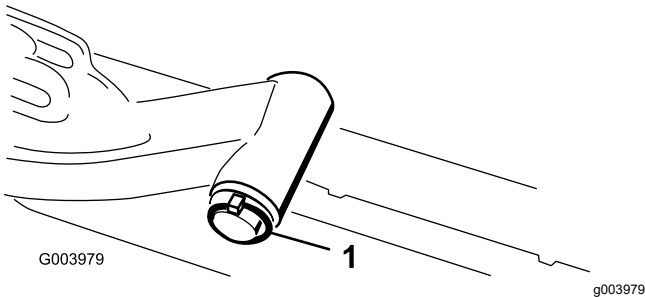

Figure 11
- A. Remove the lynch pin and washer securing the lift-arm pivot shaft to the lift arm and slide the lift-arm pivot shaft out of the lift arm (Figure 11).
- C. Insert the lift-arm shaft into the lift arm and secure it with the washer and lynch pin (Figure 11).